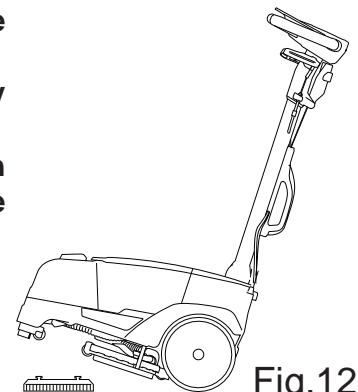

Fig.12
- Pull back on the handle to elevate the front part of the machine, position the brush cowling directly over the brush, and proceed to lower the machine (fig. 12).
- Pull back on the handle to elevate the front part of the machine (fig. 12).